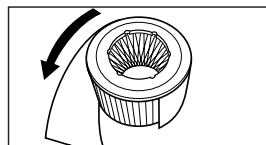

Fig. 3
- Step 7:** Carefully wrap the pre-filter around the HEPA filter so that the ends meet (Fig. 3). Fasten the ends together with the fastener provided.